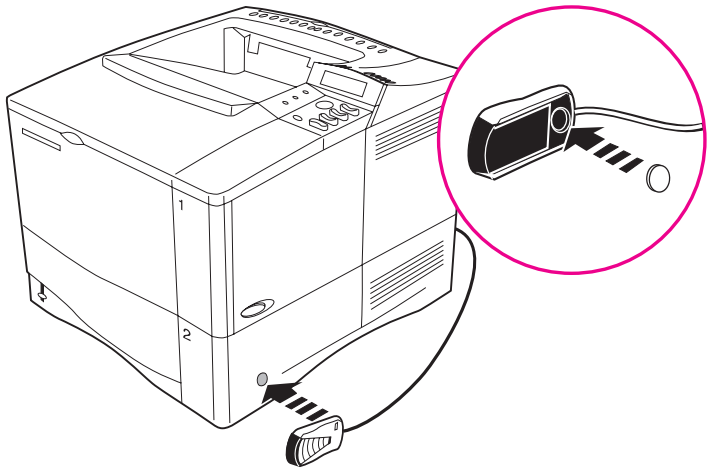

Figure 3 Attaching the Velcro Fasteners
The HP Fast InfraRed Receiver can be placed on a table or attached to the side of the printer using the Velcro fasteners shown in Figure 3 on page 7.
- 1 Attach one Velcro faster to the round depression on the underside of the HP Fast InfraRed Receiver (see Figure 3).
- 2 Attach the remaining Velcro fastener to the side of the printer (see Figure 3).